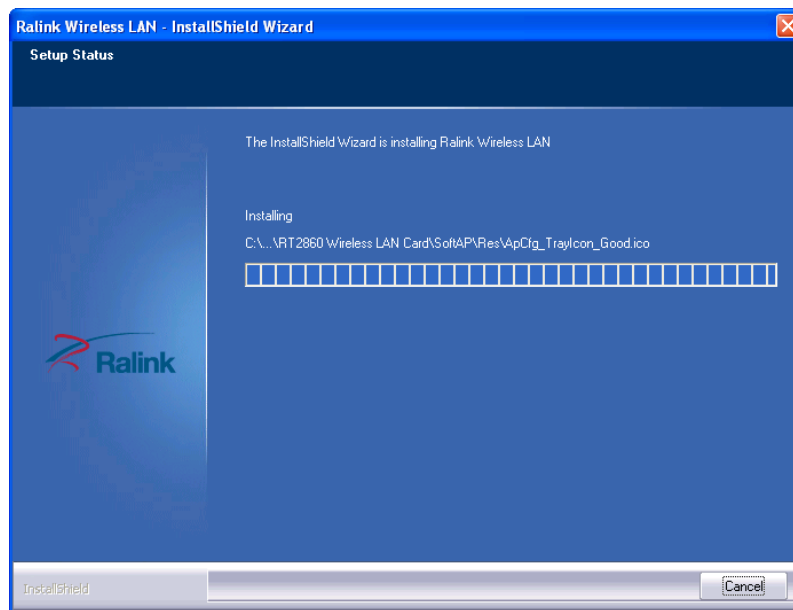

Figure 8-35: Setup Status
Step 11: The **Setup Status** screen in **Figure 8-35** appears and displays the progress of the installation.